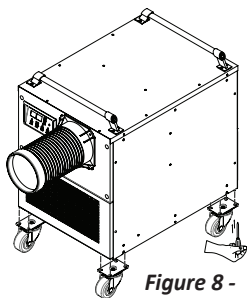

Figure 8 - caster attachment
3. Use screws (enclosed inside of accessory box with caster) to install in the unit as shown in Figure 8.